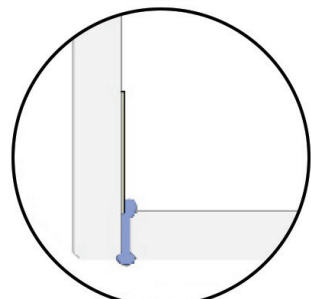

FIG 14.
- Gently place glass to glass panel into siliconed floor channel and tilt gently upwards until it joins to glass to wall panel (**FIG 14**). Ensure there is no side to side movement while placing panel as this will smear silicone.